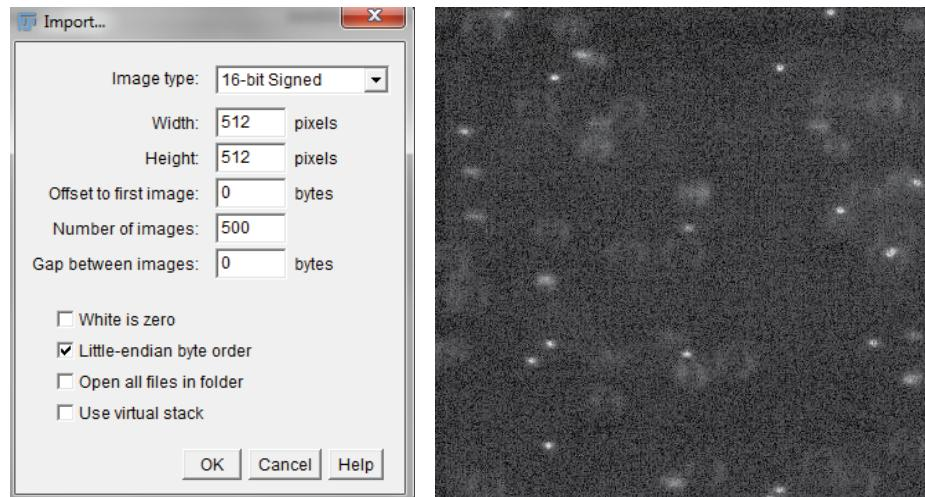

Figure 10. Import parameters.
- 1) Before the plugin can be started you must open an image sequence or a movie in ImageJ. For opening your saved movie use the **File\Import\ Raw**. You should input following parameters as indicated in Figure 10. (**Check your lab notes for number of frames and binning size**). Upon file import you should obtain video sequence of your moving beads.